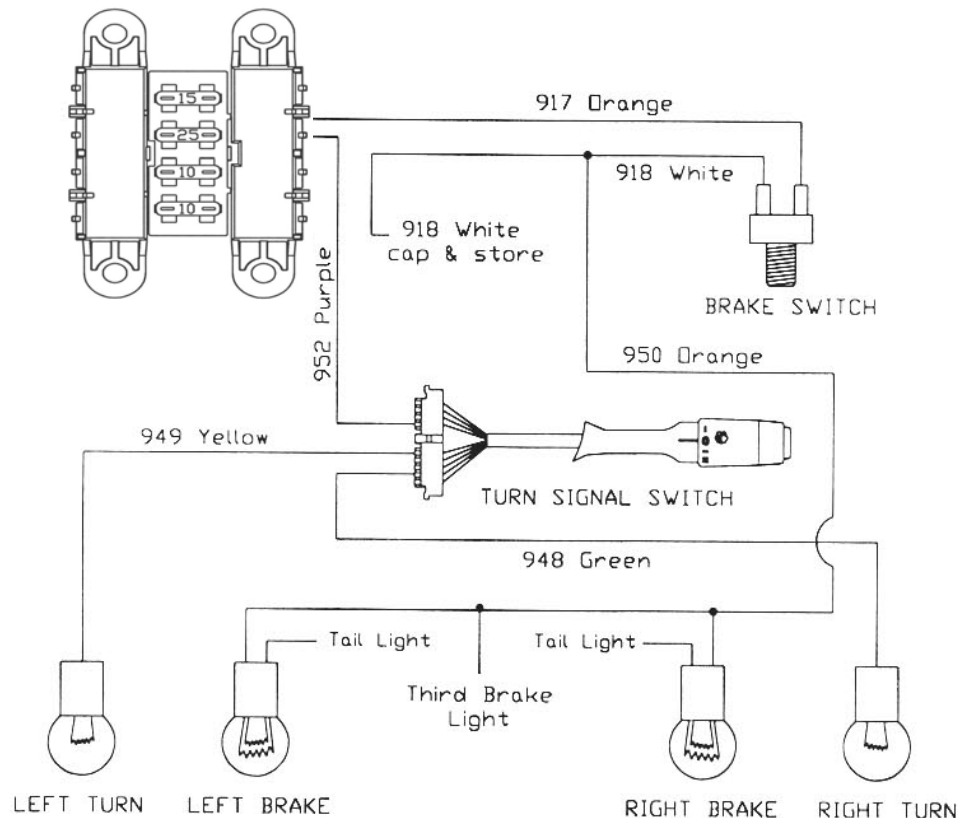

Figure 5-7 Integrated Brake Lights & Separate Turn/Brake Lights
5.9.2 These 4 wires will be connected according to one of the diagrams shown in **Figure 5-7**. Which diagram you will use depends on whether or not you have one bulb on each side of the vehicle that is for the brake/tail **and** Turn Signal Lights (this is referred to as integrated lights) **or** you have **more than one** bulb on each side **and** the Brake and Turn Signal Lights are hooked to different bulbs (referred to as separate Brake/Turn Lights).